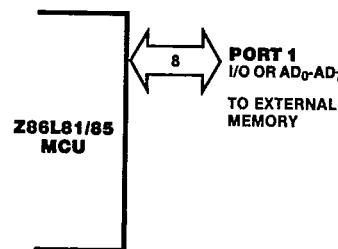

Figure 8. Port 1
Port 1 is a dedicated Z-BUS-compatible memory interface. The operations of Port 1 are supported by the Address Strobe (AS) and Data Strobe (DS) lines, and by the Read/Write (R/W) and Data Memory (DM) control lines. The low-order program and data memory addresses (A₀-A₇) are output through Port 1 (Figure 8) and are multiplexed with data in/out (D₀-D₇). Instruction fetch and data memory read/write operations are done through this port.